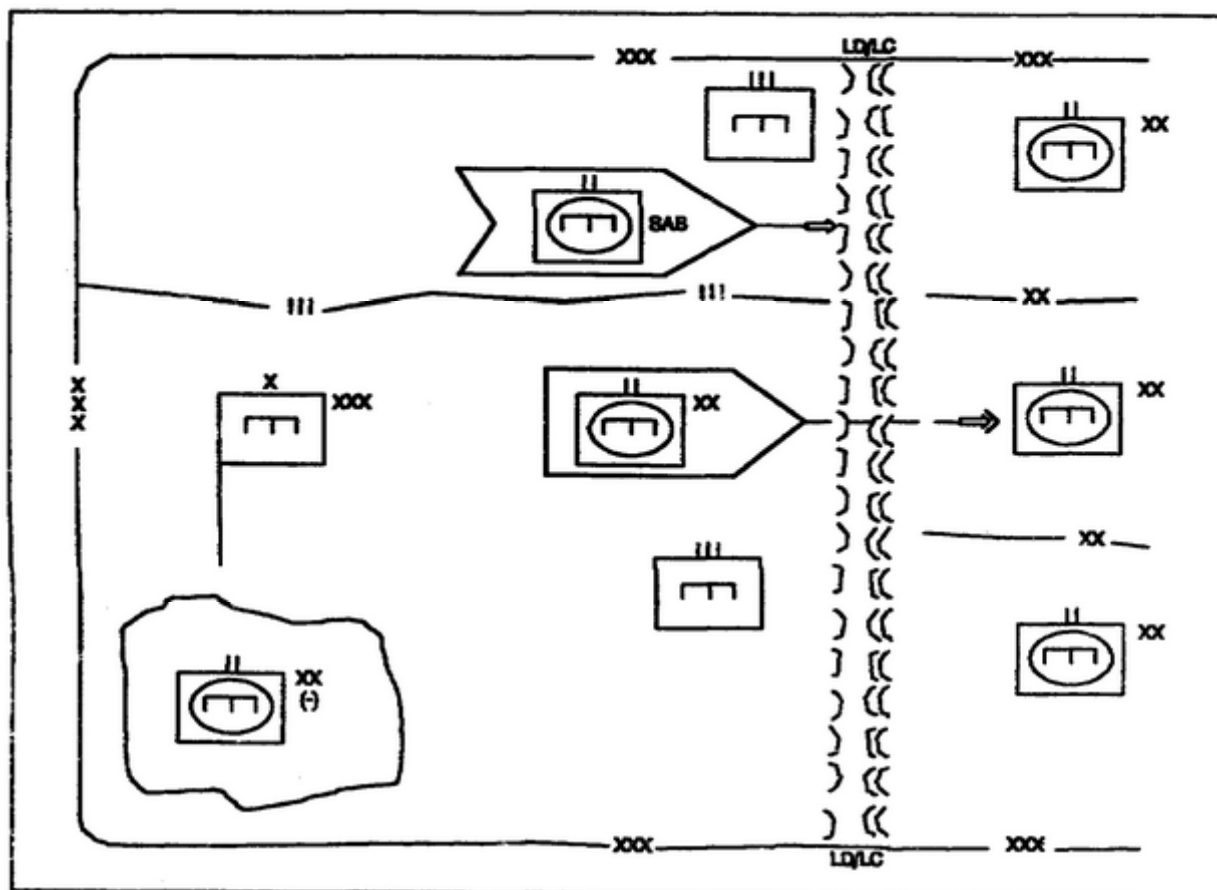

Figure 2-4. Corps engineer laydown (offensive scenario).
- (1) The corps engineer brigade aligns combat groups to support units in the corps rear and committed divisions. These groups focus on general engineering and survivability support for corps rear-area elements. The engineer brigade assigns the area of responsibility to engineer groups in the corps rear. The groups conduct mobility, countermobility, survivability, and general engineering tasks for corps units within their assigned areas. They provide subordinate units to the division engineers in armored divisions as required and can maintain supply routes to BSAs on a task-by-task basis. Their bridge and CSE units operate as far forward as necessary.
- (2) Figure 2-4 shows an example of an engineer group employed to support a corps offensive operation. The main effort is the center division with supporting attacks by the northern and southern divisions. One division follows in the center and assumes the main attack on order, and one division is the reserve and plans movement along routes behind the southern attacking division. A separate armored brigade follows and supports the northern attacking division. The organization of this brigade is similar to that of the division engineer battalion.